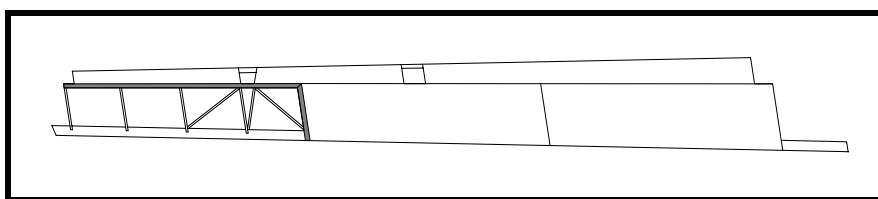

Figure 28
- ❑ Fit and install the lower trailing edge skin between Sta. 6 and 10. See Figure 28.